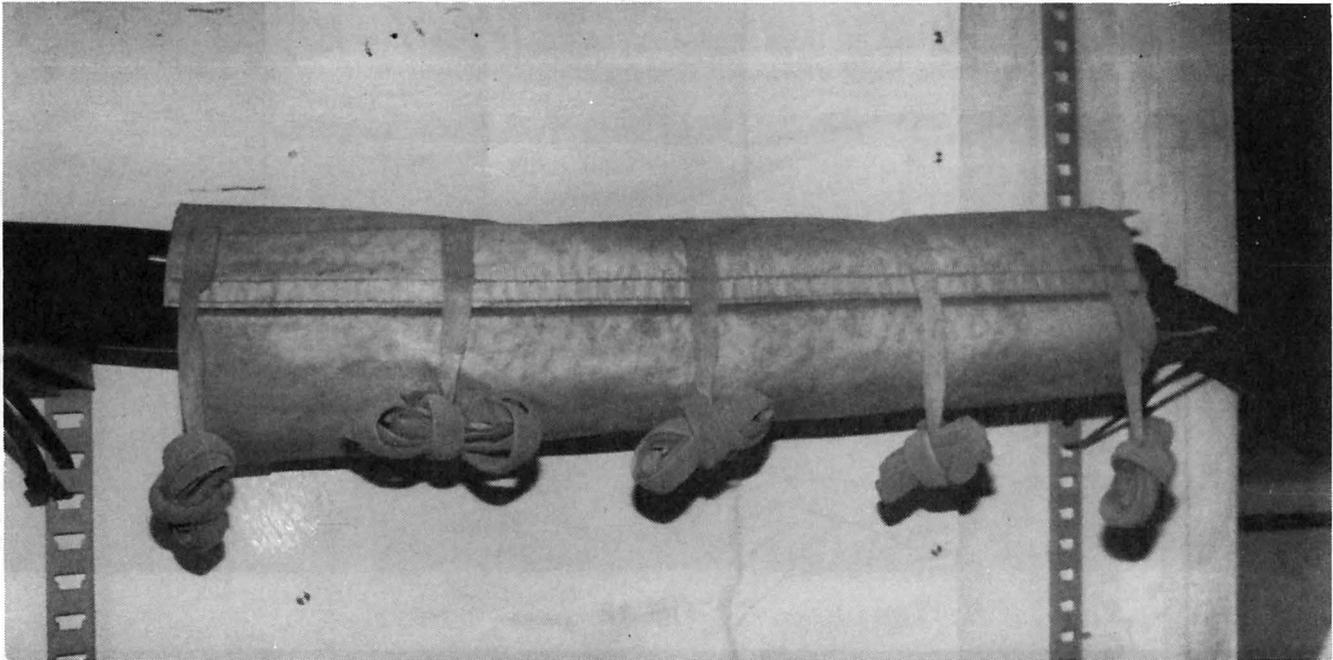

Fig. 14
3. Pull the top of the cover down and tightly wrap the CR boot. Mate Velcro strips to hold boot cover in place. (See Fig. 14.)